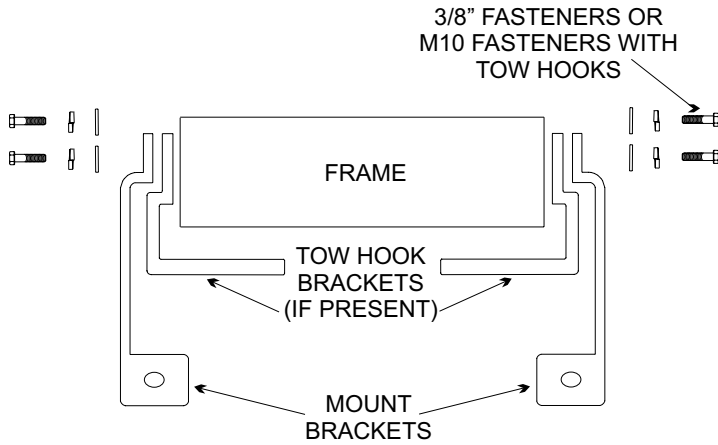

FIGURE 2
- STEP 4. Install brackets using 3/8" Fasteners and Nut Plates as shown in Figure 1, 2 and 3. Leave loose. (Bend Nut Plates to achieve proper alignment when placing inside the frame. Nut Plates should line up holes A and B in frame. See Figures 2 and 3. Proceed to Step 7.